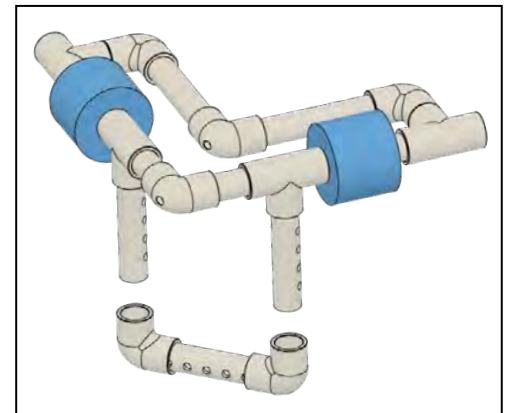

Figure 36
- Connect the assembled motor mount assembly to the main upper frame assembly. (Figure 36)